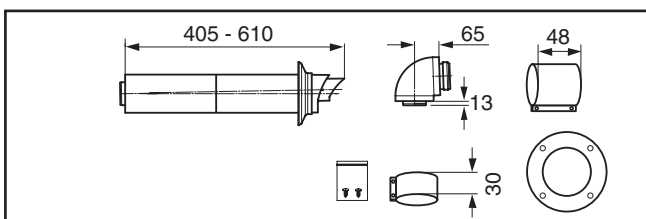

Fig. 3.2 Art. No. 303936
- 60/100 telescopic horizontal air/flue duct, see fig 3.2.